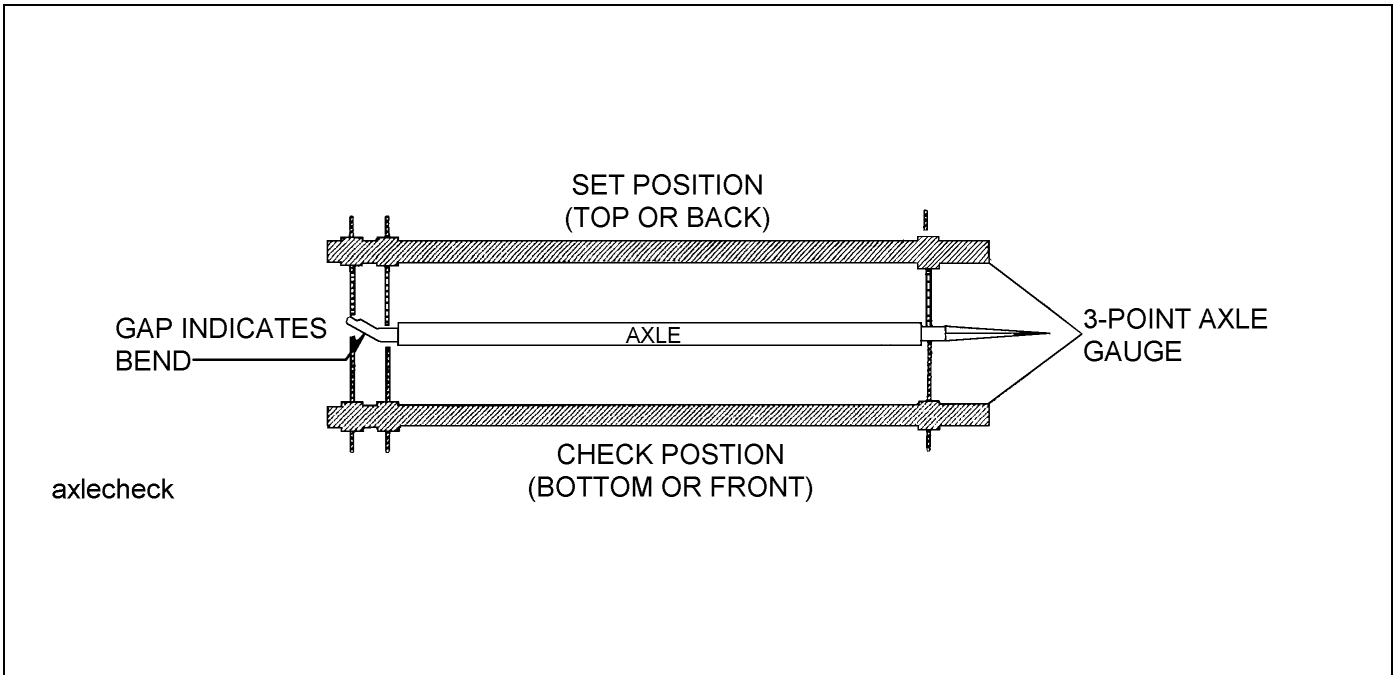

Figure 4-10: Checking Axle for Bend
2. Place a 3-point axle gauge against the front side of the axle, and adjust each axle gauge point to the axle. (Double point end against the inner and outer wheel bearing surfaces of the spindle being checked and the other point on the inner bearing surface on the other spindle.)(See Figure 4-10.)
3. Move the axle gauge and place against the back side of the axle. If either of the points of double point end fails to touch the axle surface, a bent spindle is evident. A point gap of .015" or more is considered excessive tire “toe” and the axle must be replaced (See Figure 4-10.)